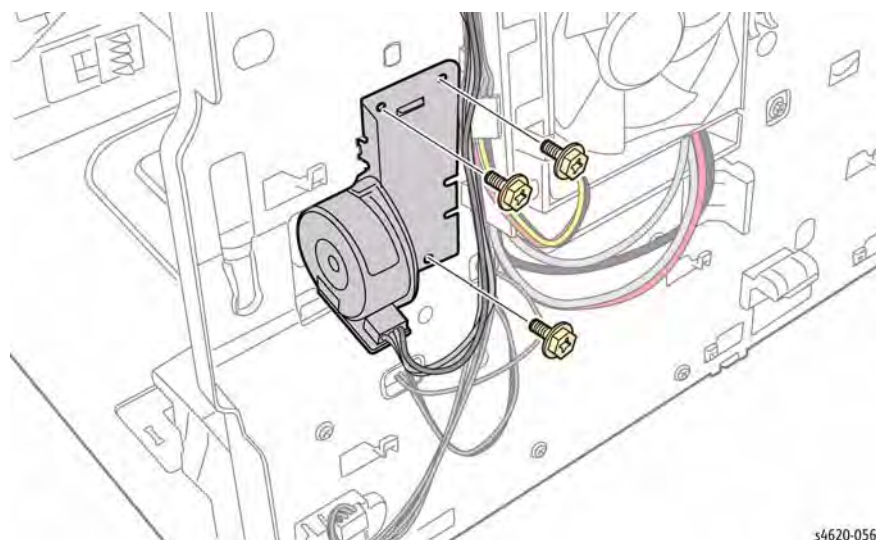

Figure 1 Remove the Fuser Release Drive Assembly
5. Remove 3 screws (Gold, metal) that secure the Release Drive Assembly to the chassis, Figure 1.